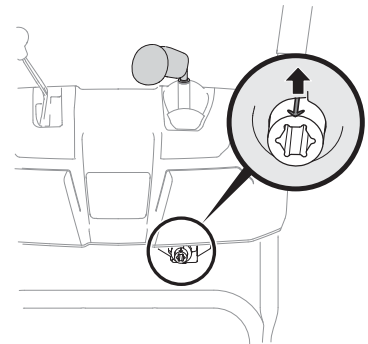

Figure 2-29
5. Rotate joystick to one o'clock position so that indicator arrow on pinion gear below control panel faces upward. See Figure 2-29.